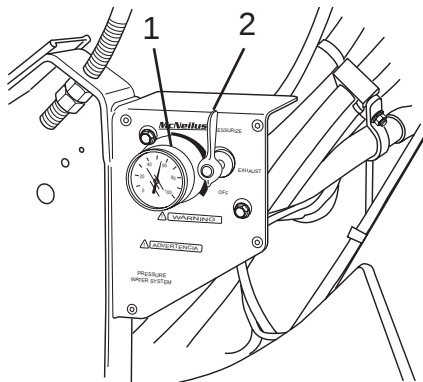

Figure 78
2. Turn air pressure control valve to the PRESSURIZE position (Figure 78, Item 1). the water tank will be pressurized from the chassis air system. The air gauge (Figure 78, Item 2) will indicate the pressure in the water tank. The pressure must not exceed 55 psi (380 kPa).